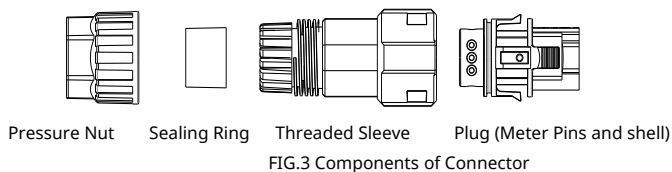

FIG.3 Components of Connector
- 1) Diagram of connector, as per FIG.3.